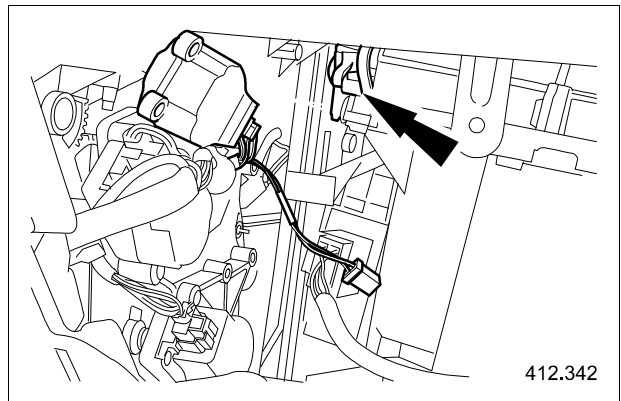

Fig. 6
- 14 Undo and remove the air inlet blend door actuator securing screws (see Fig. 6).